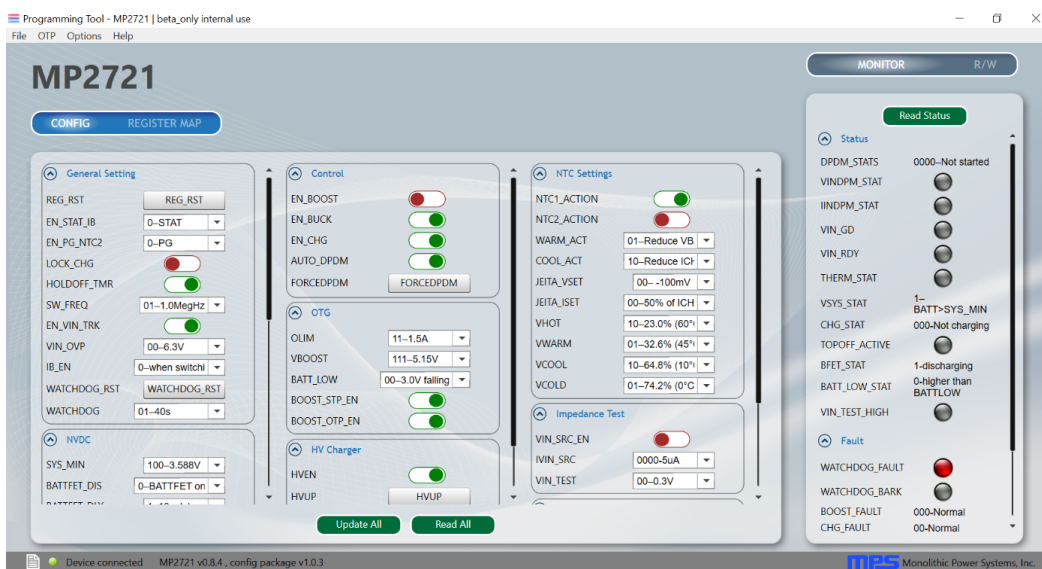

Figure 3: MP2721 Evaluation Software
7. Launch the MP2721 evaluation software. Figure 3 shows the GUI software's main window.
1. Ensure that all the connections are successful, including the connection between the USB-to-I²C communication interface and the EV2721-RH-00A. Successful connections are indicated in green on the lower-left side of the GUI window (see Figure 3 on page 3). The program is ready to be run once all of the connections are successful.